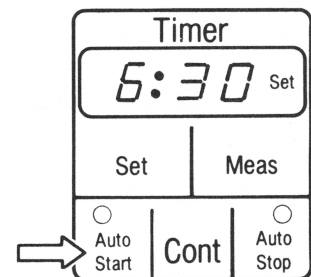

Figure 11. **Auto Start** Key.
8. Press **Auto Start** (Figure 11). This command automatically starts oven heating.